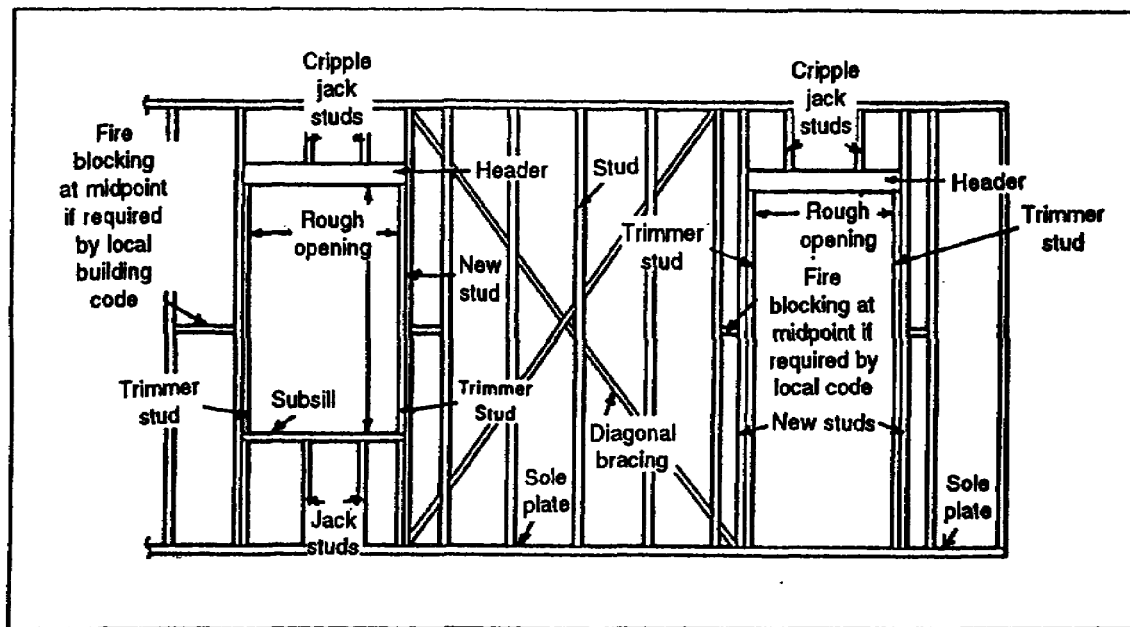

Figure 2-11. Fire block placement
**2-5. Fire Blocks.** Fire blocks are short pieces of 2 by 4s cut to fit snugly between the studs. They are placed midway up the wall, between the studs to prevent the spread of fire inside the wall. The use of fire blocks will differ according to local building codes. Figure 2-11 shows the proper placement of fire blocks.